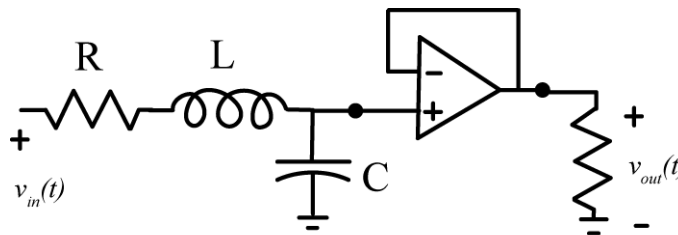

Figure 12. Our second order system
- 2) Modify your circuit so the plant and isolation amplifier is as shown in Figure 12. Again the resistor is 1 k Ω , but the capacitor is a 0.01 μ f capacitor, and the inductor is a 33 mH inductor (we've used the inductor and capacitor before in Lab 2).